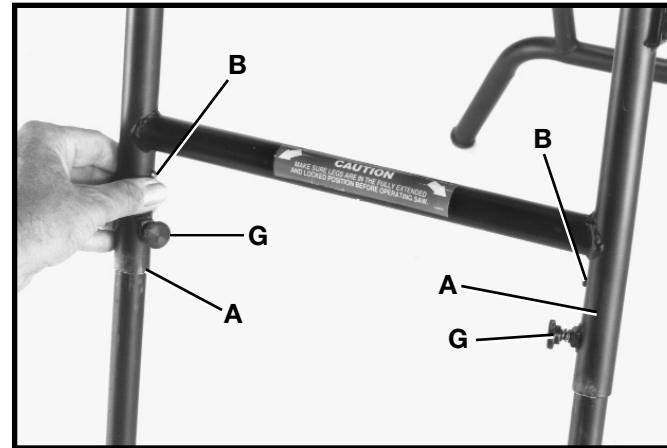

Fig. 55
2. Loosen two locking knobs (G) Fig. 55. While holding legs (A), as shown, press spring-loaded detents (B) with your thumbs and carefully lower upper legs. Tighten locking knobs (G) Fig. 55.